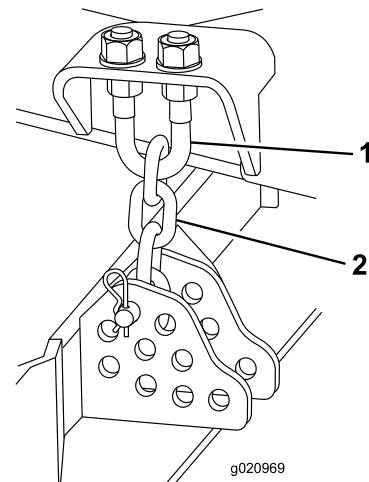

Figure 105
1. Loosen the jam nuts on the top or bottom of the height-of-cut chain U-bolt (Figure 105).